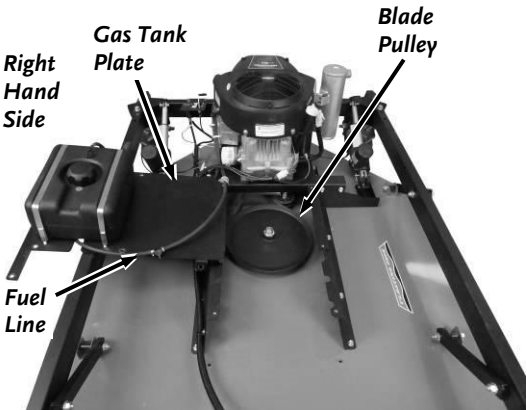

Figure 34
4. Carefully lift the Gas Tank Plate and position it on the Fuel Line side of the machine (right hand side) (**Figure 34**).